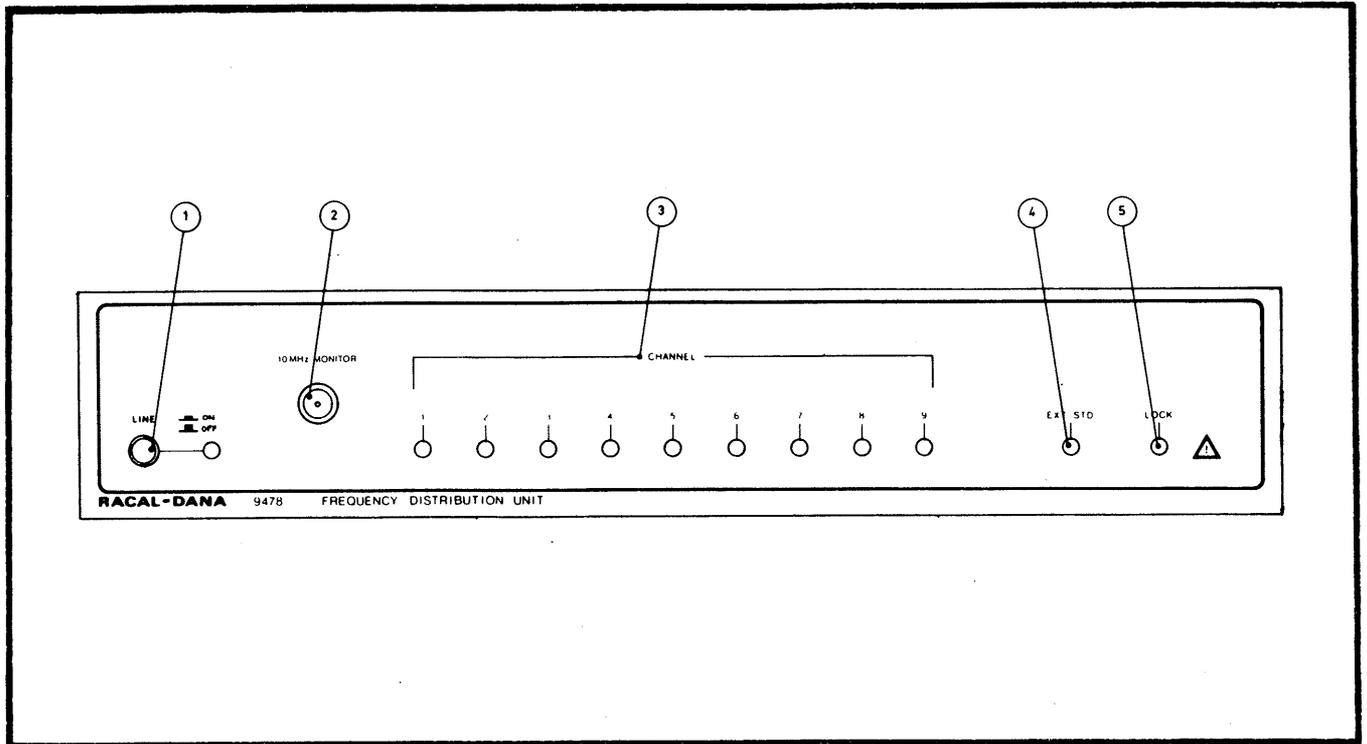
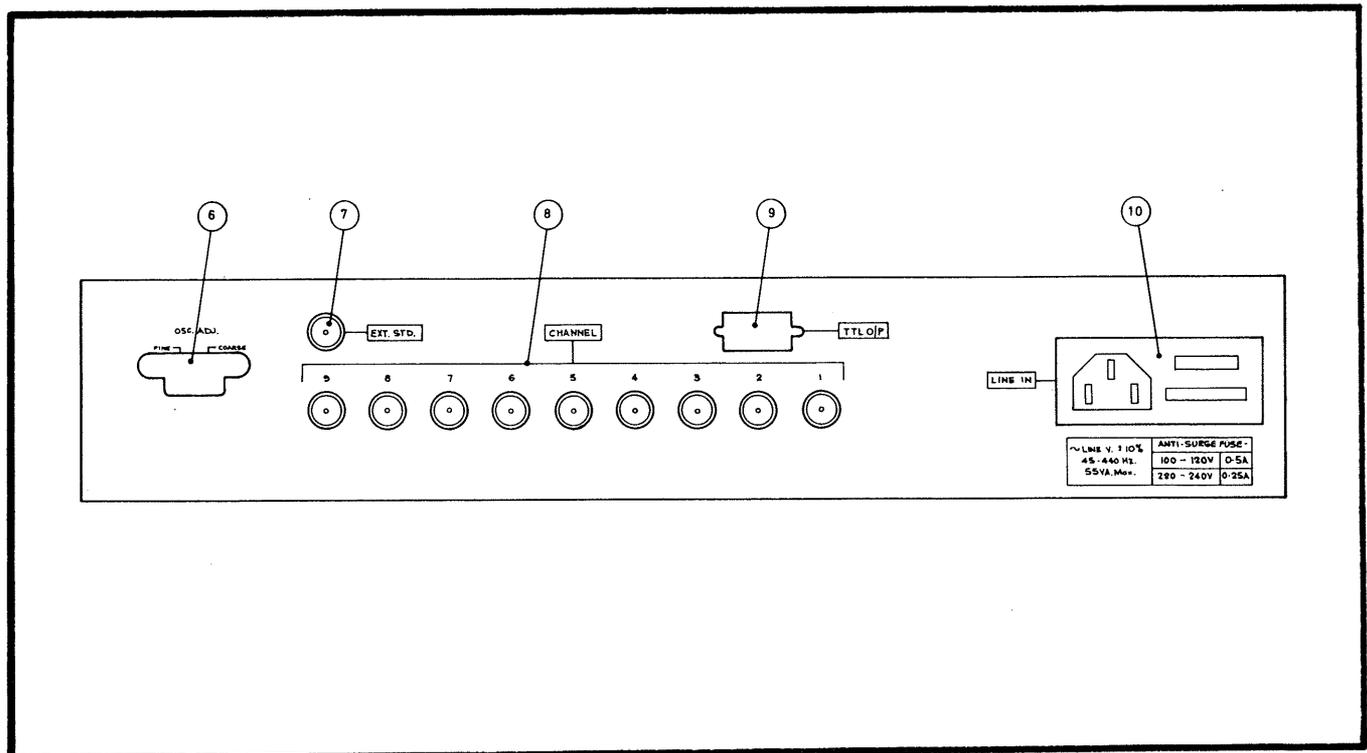

Fig. 4.1 Front Panel
Fig. 4.2 Rear Panel
4.2.1 Each group of controls, indicators or connectors described is numbered to correspond with the indicators on Fig. 4.1 (front panel) or Fig. 4.2 (rear panel).